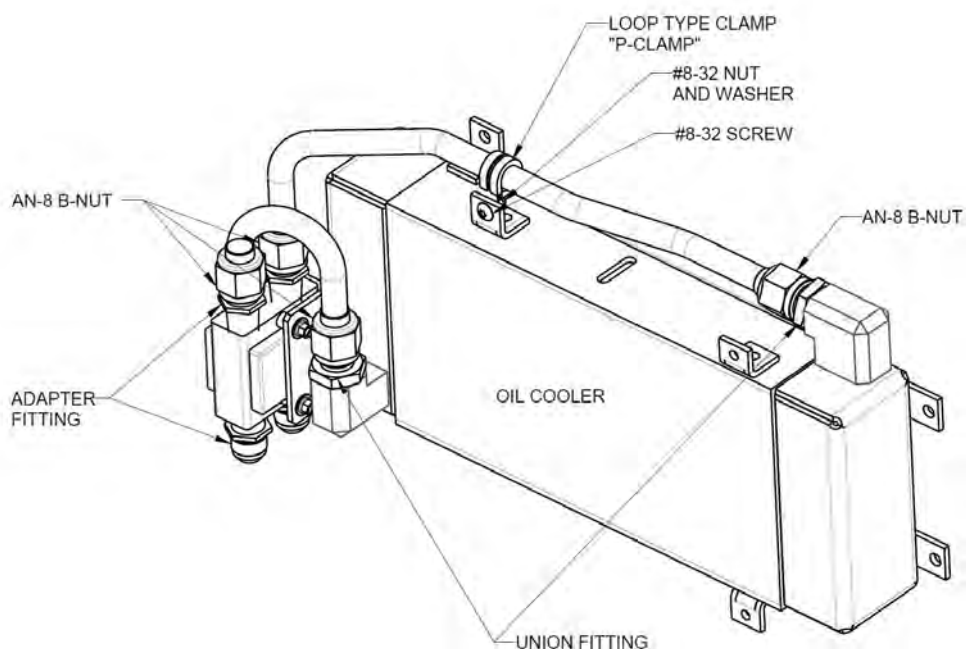

FIGURE 16-52
7. Use a 13/16 wrench to hold the Adapter Fitting and a 7/8 wrench to turn the AN-8 B-nut to remove the aluminum Thermostat-Oil Cooler Line from the Thermostat. (See Figure 16-52.)
8. Install the P-clamp as shown in Figure 16-52. Torque hardware to 20 in-lbs.